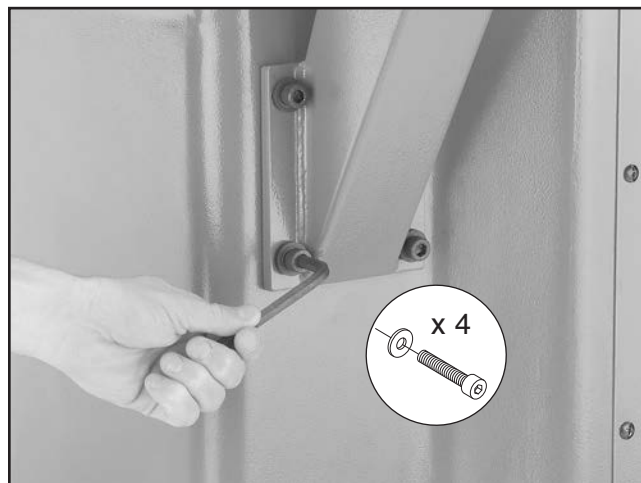

Figure 15. Installing control panel pedestal.
3. Remove the four pre-installed cap screws from the back of the jointer, then, with assistance, secure the pedestal to the jointer with these cap screws, as shown in **Figure 15**.